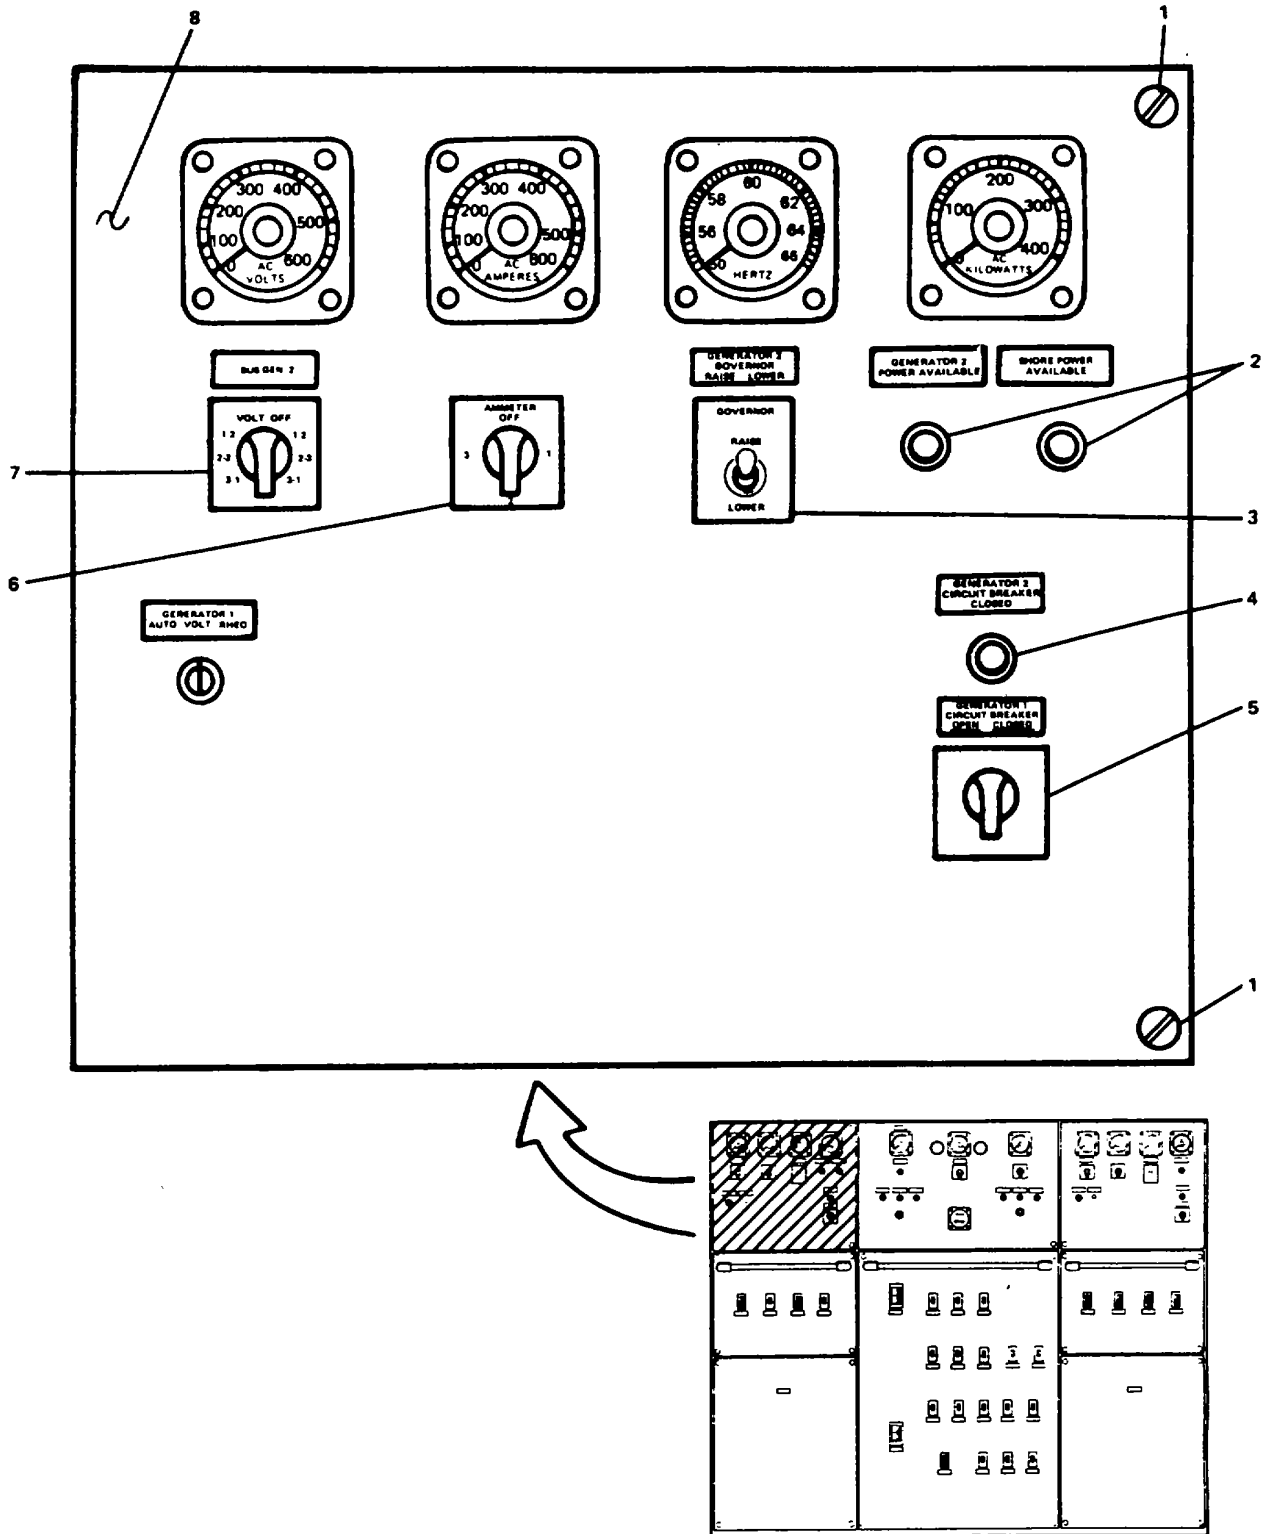
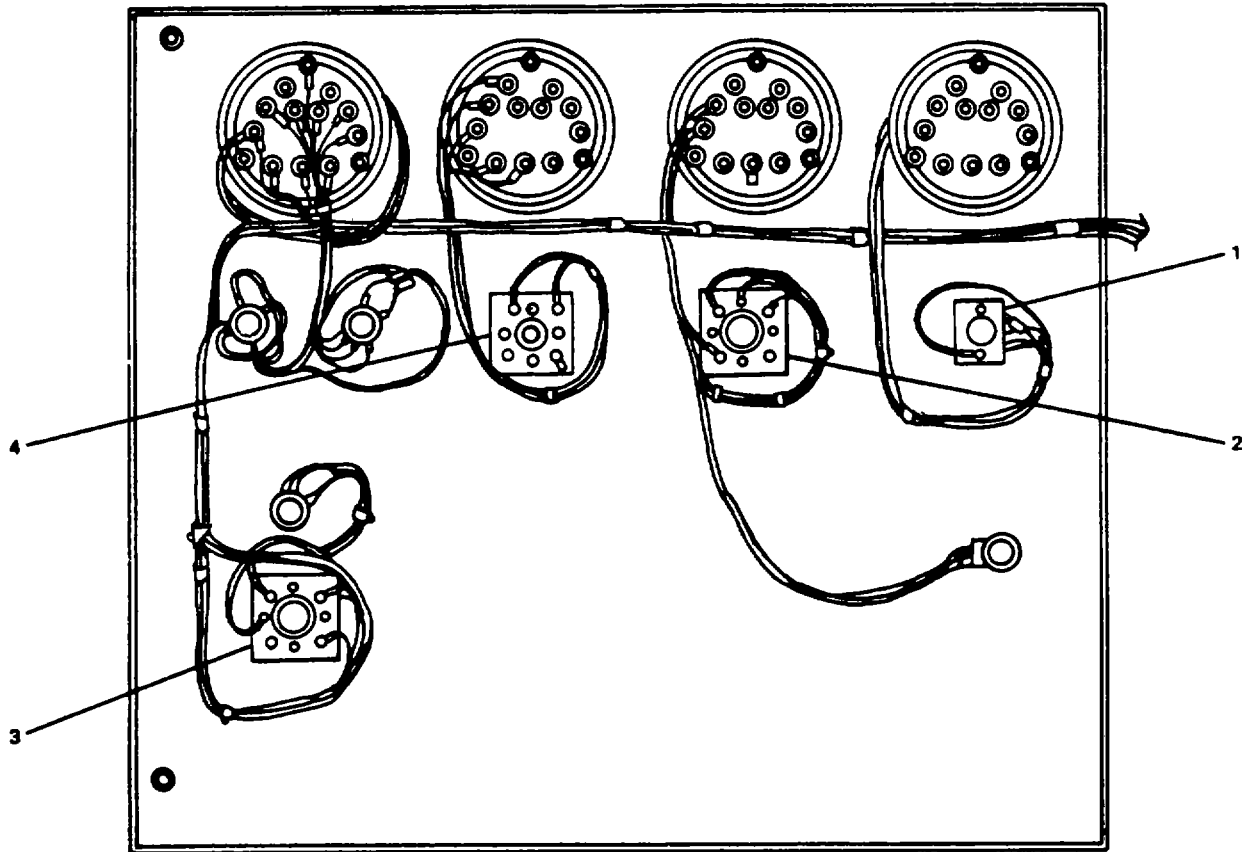
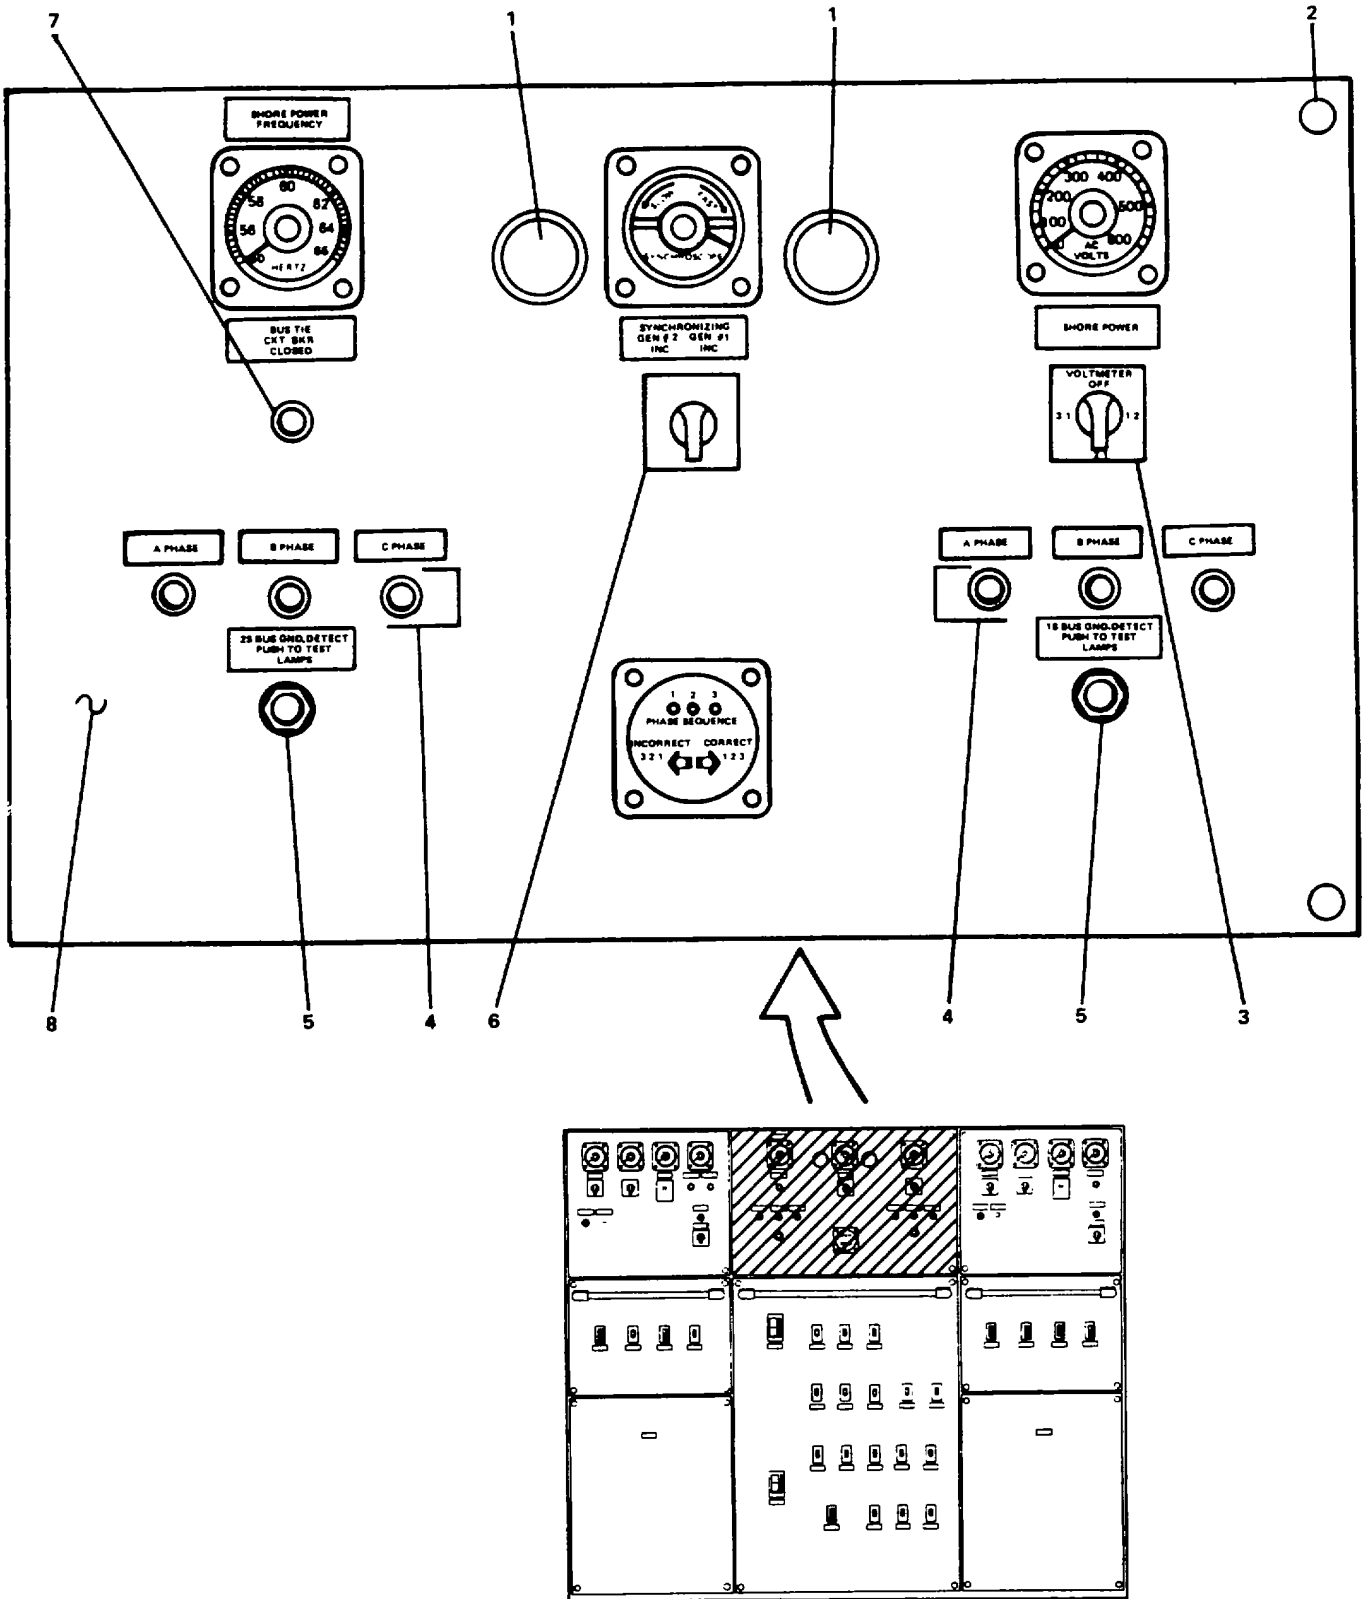
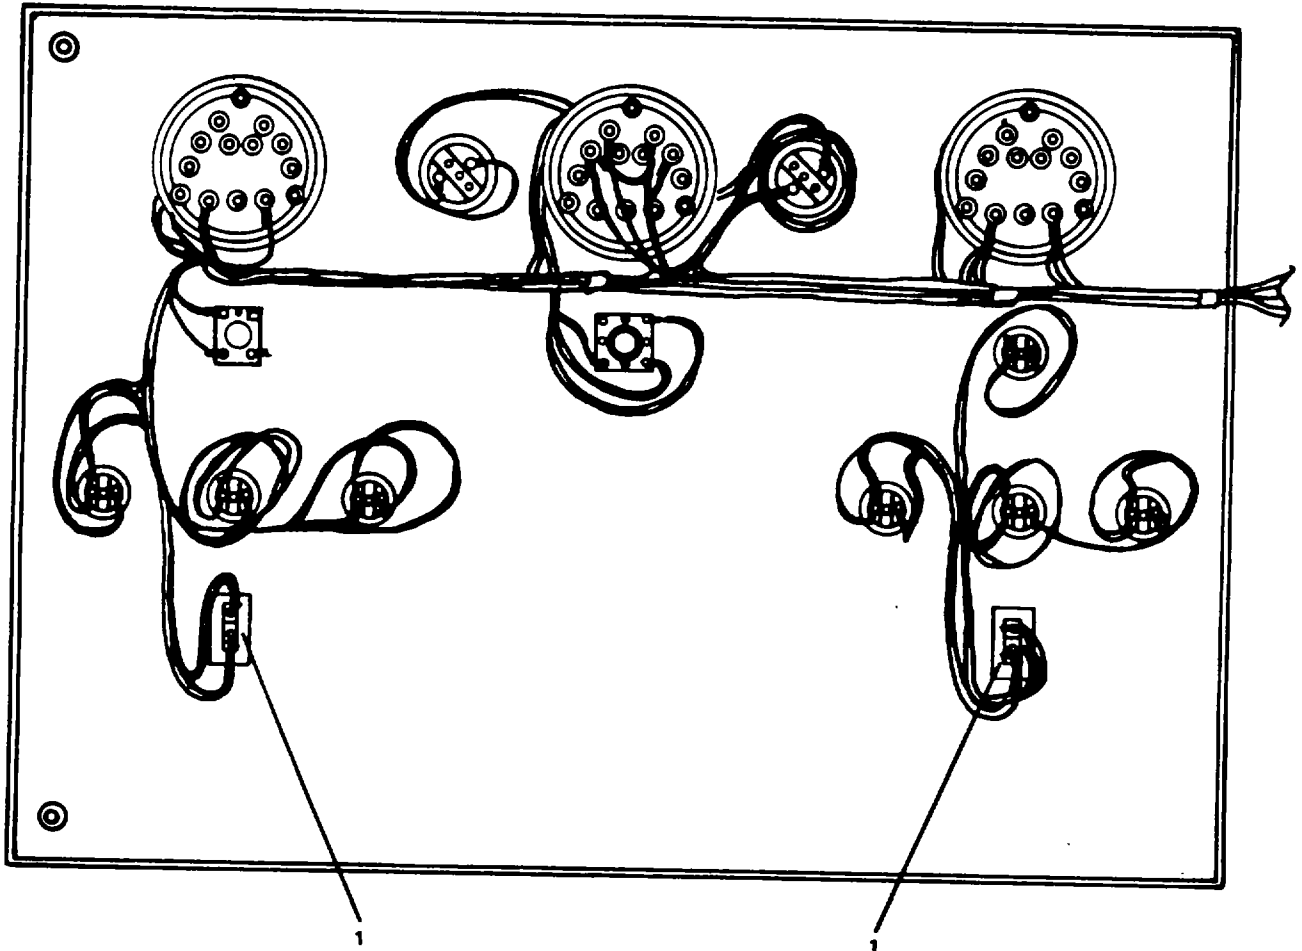

Figure 2-43. Main Switchboard Top Left Panel.
Figure 2-44. Main Switchboard Top Left Aft Panel (Rear).
Figure 2-46. Main Switchboard Top Center Panel.
Figure 2-47. Main Switchboard, Top Center Panel (Rear).
a. Remove indicator lens covers (2, 4, Figure 2-43) by holding between thumb and forefinger and turning slightly and pulling straight out.
c. Remove associated hardware from governor toggle switch (3).
d. Remove knob and associated hardware from circuit breaker switch (5).
f. Loosen door panel screws (1) by turning counterclockwise.
g. Swing door panel (8) left to open.
h. Tag and disconnect electrical wiring to select switches (1, 2, Figure 2-44), governor toggle switch (4), and circuit breaker switch (3).
i. Remove associated hardware from select switches (1, 2), toggle switch (4), and circuit breaker switch (5). Remove components from switchboard panel.
Repair at this level of maintenance is by replacement of lamps (2, 4, Figure 2-43), governor toggle switch (3), circuit breaker switch (5), and select switches (6, 7).
a. Install select switches (6, 7, Figure 2-43), circuit breaker switch (5), and toggle switch (3) through rear of panel door.
b. Install associated hardware on select switches (1, 2, Figure 2-44), circuit breaker switch (3), and toggle switch (4).
d. Close door panel (9, Figure 2-43). Turn door panel screws (1) clockwise until tight.
g. Install associated hardware to toggle switch (3), associated hardware and knob to circuit breaker switch (5), and associated hardware and knob to select switches (6, 7).
a. For disassembly of switches (3, 6, Figure 2-46) and indicator lamps (4, 7) refer to paragraph 2-38 and Figures 2-43 and 2-44.
b. Remove sync light (1) from socket by turning counterclockwise.
c. Remove associated hardware from pushbutton (5).
d. Loosen door panel screws (2) by turning counterclockwise.
e. Swing door panel (8) left to open.
f. Tag and disconnect electrical wiring to pushbutton (1, Figure 2-47).
Repair at this level of maintenance is by replacement of indicator lamps (4, 7, Figure 2-46), switches (3, 6), pushbuttons (5), and sync light (1).
a. For assembly of switches (3, 6, Figure 2-46) and indicator lamps (4, 7) refer to paragraph 2-38 and Figures 2-43 and 2-44.
b. Install pushbutton (1, Figure 2-47) through rear of door panel.
c. Connect electrical wiring to pushbutton (1). Remove tag.
d. Install associated hardware on pushbutton (5, Figure 2-46).
e. Install lamp (1) into socket by turning clockwise until tight.
f. Close panel door (8).
g. Turn door panel screws (2) clockwise until tight.